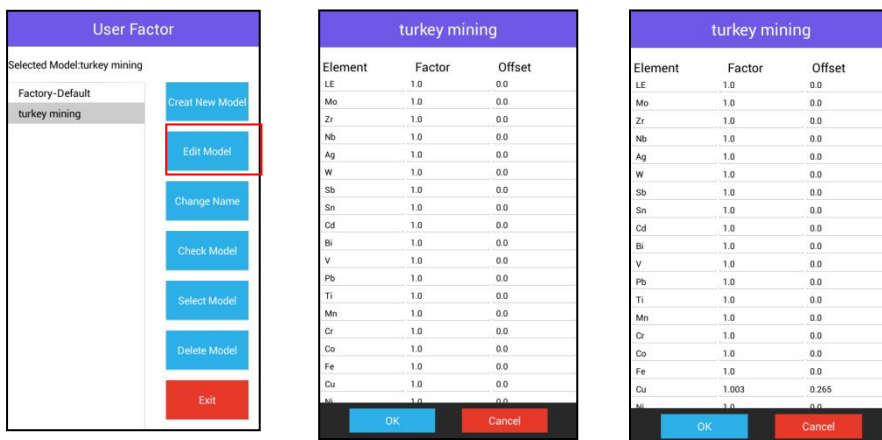

Fig 8
e) Add the slope and intercept values to "turkey mining" model elements Cu, Fig 8.